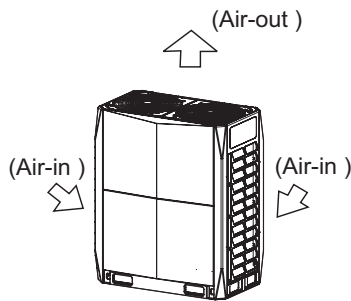
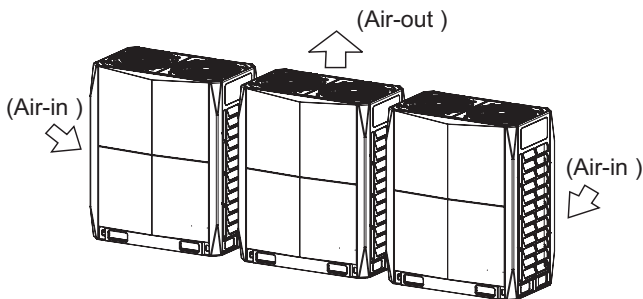

Fig. 3 — Single Unit Installation
Fig. 4 — Multiple or Parallel Unit Installation
Step 2 — Position the Unit — Units are recommended for outdoor use. For single unit installation, see Fig. 3. For multiple or parallel unit installation, see Fig. 4. Unit should be mounted on concrete and fastened to anchor bolts to prevent the unit from tipping. Units installed in areas that are exposed to ambient temperatures below freezing (32 F) should be installed on a snow/ice stand as defined by local codes.